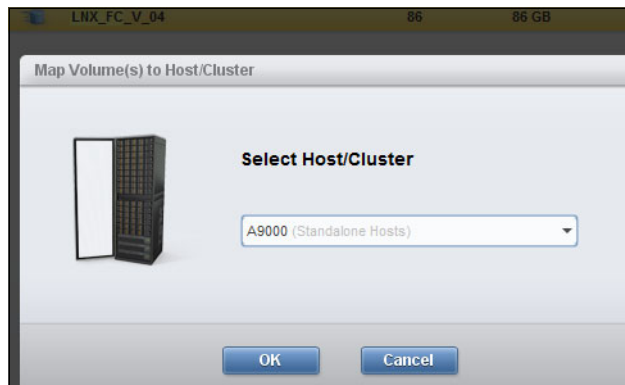

Figure 4-23 LUN mapping to the data migration host
5. Select the volumes to be mapped (the volumes that were earlier mapped to the actual host), as shown in Figure 4-23, and click **Map**.